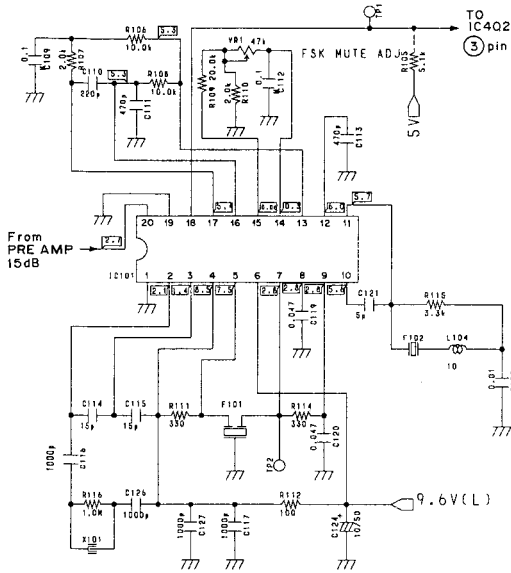

Fig. 13 Mixer, Frequency Discriminator and Data Sharper
1.4 Mixer, Frequency Discriminator and Data Sharper (Fig. 13)